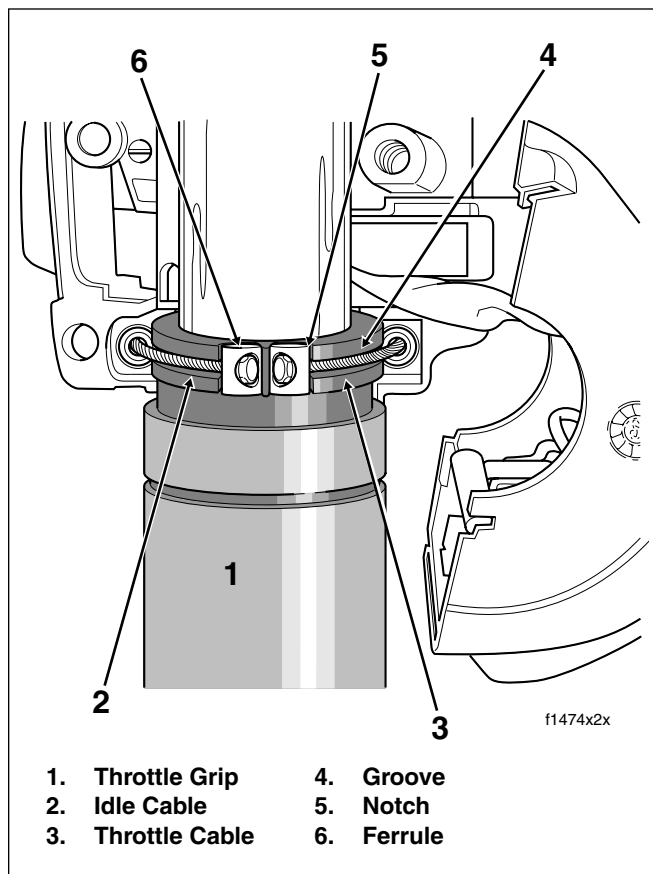

Figure 2-110. Install Throttle/Idle Cables
5. Position the lower switch housing beneath the throttle control grip. Install the brass ferrules onto the cables so that the end fittings seat in the ferrule recess. Seat the ferrules in their respective notches on the throttle control grip. Verify that the cables are captured in the grooves molded into the grip. See Figure 2-110.